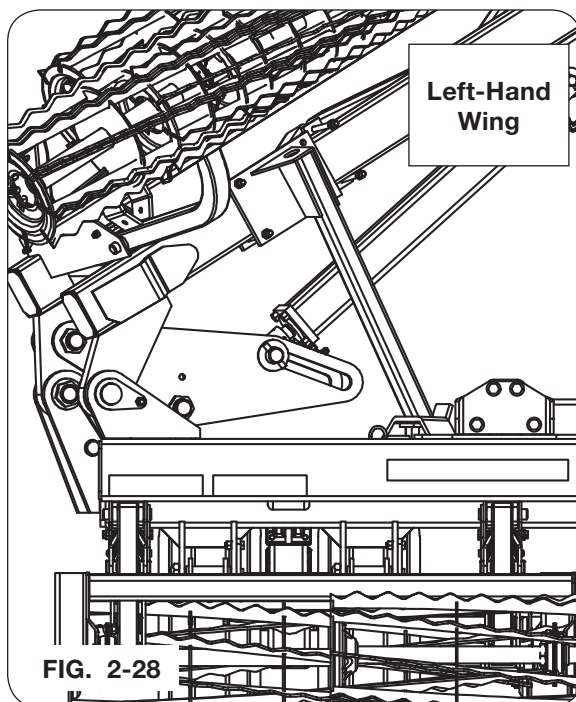

FIG. 2-28
3. Fold the wings and slide the assembled wing stands to rest on the base wing stands as shown in FIG. 2-28 and FIG. 2-29. Tighten hardware accordingly.